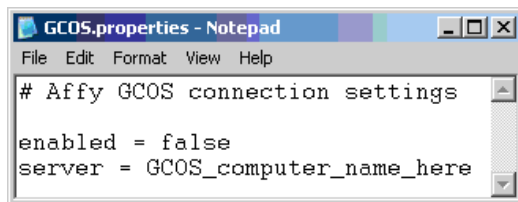

Figure 6.2 GCOS.properties
1. Open GCOS.properties with Microsoft Notepad (Figure 6.2)..